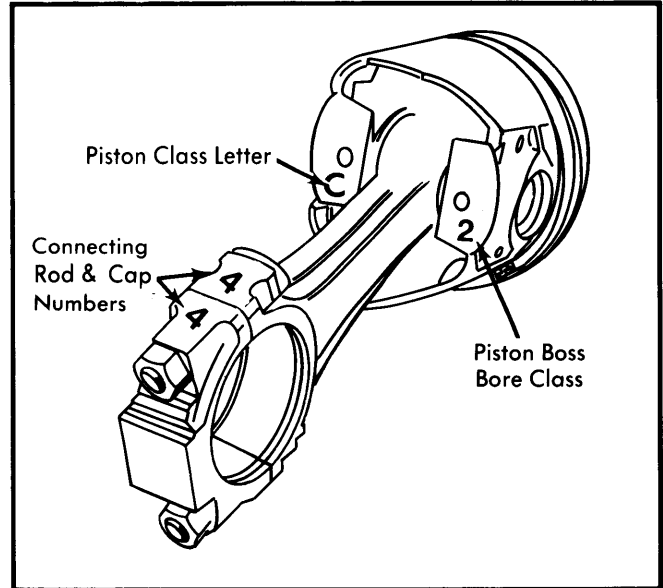

Fig. 8 Piston & Connecting Rod Assembly Showing Identification Class Numbers
2) Check fit of pin in piston. Pin should be push fit in piston and not fall through under its own weight. There are 2 classes of piston pin and piston bore sizes. If piston pin is to be replaced, it must be replaced with a pin of the same class. Class of piston is stamped on bottom of piston and class of pin is stamped on face of pin and bottom of piston. See Fig. 8.